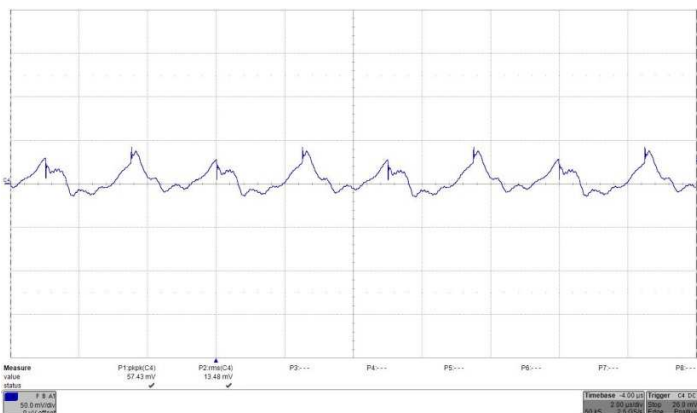

Fig. 23: Output voltage ripple at full rated load current.
a) Without input filter from Fig. 23 (C9 = 2 x 470μF/50V/70mΩ)
b) With input filter from Fig. 23.
b) With input filter from Fig. 23